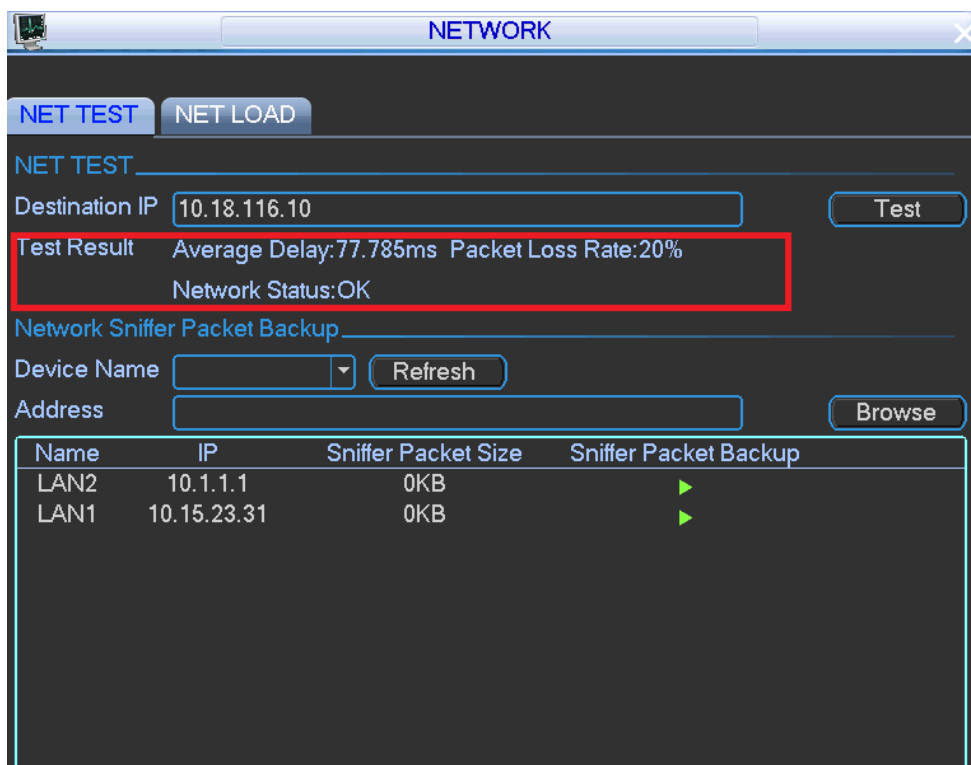

Figure 4-67
- Test: Click it to test the connection with the destination IP address. The test results can display average delay and packet loss rate and you can also view the network status as OK, bad, no connection and etc. See Figure 4-67.